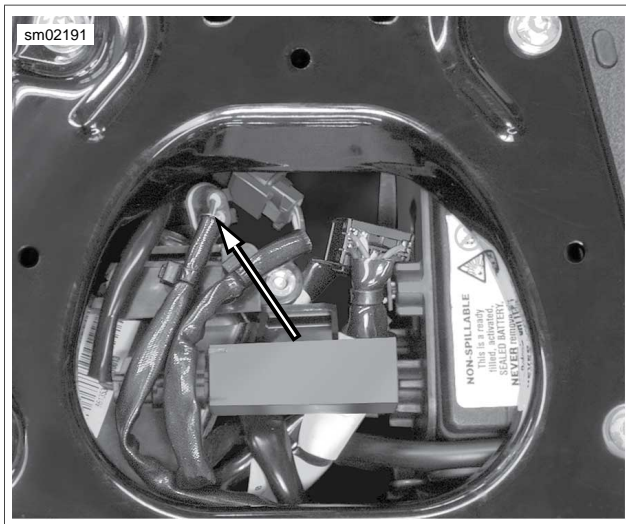

Figure 4-60. Rear O2 Connector and Harness
2. See Figure 4-60. Disconnect rear O2 sensor connector [137]. Note wire routing for proper installation.
13. See Figure 4-60. Connect rear O2 sensor connector [137].